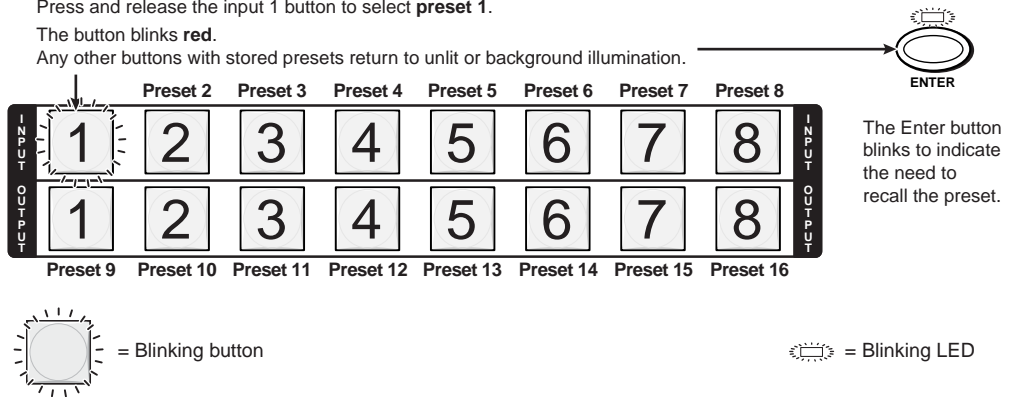

Figure 3-33 — Select the preset
3. Press and release the Input 1 button (figure 3-33).